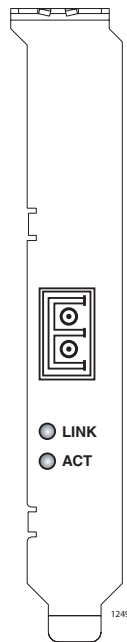

Figure 2. AT-2971SX Gigabit Ethernet Adapter
**AT-2971SX** The AT-2971SX Gigabit Ethernet adapter has one fiber port and two LEDs, as shown in Figure 2 and described in Table 2.